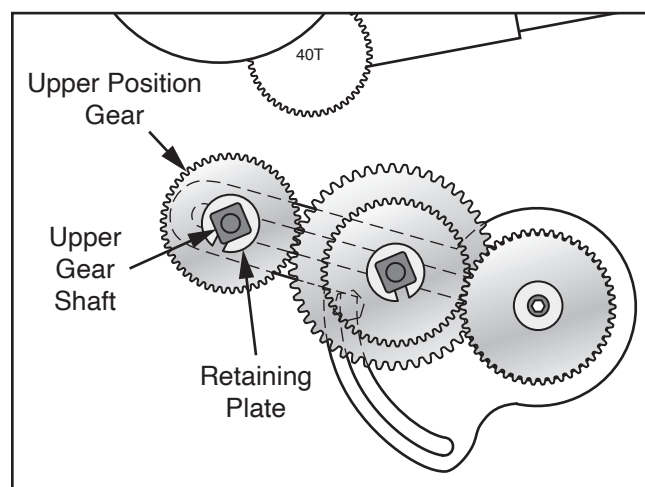

Figure 90. Upper position gear.
7. Check which gear is installed in upper position (see **Figure 90**).
8. Slide retaining plate out of upper gear shaft slot (see **Figure 90**), replace installed gear with 34T gear, making sure to align key and keyway, then slide retaining plate back in place to secure.